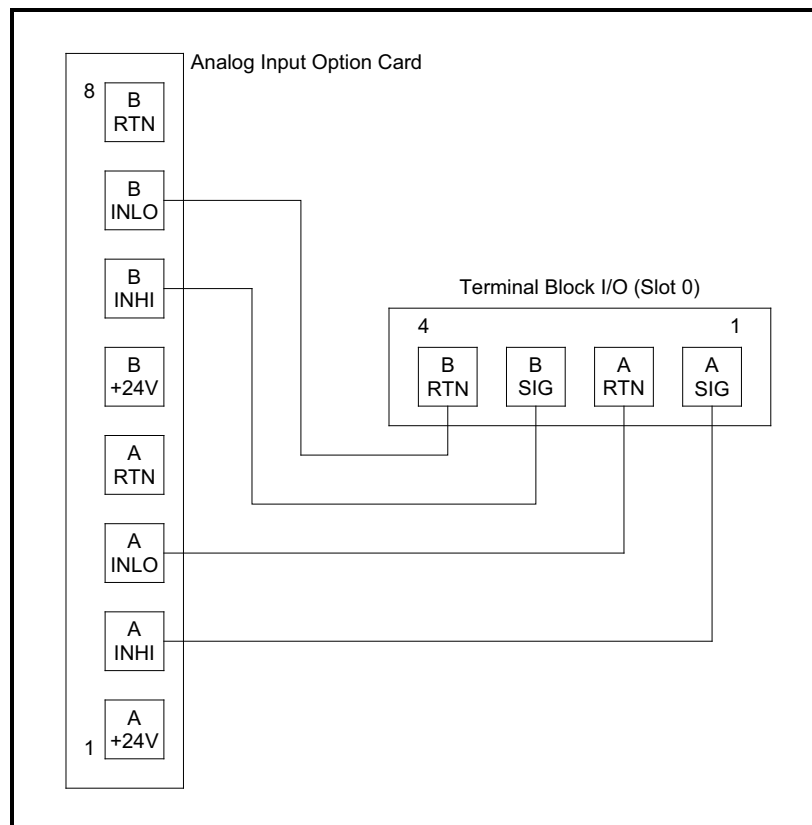

Figure 3: Analog Input Calibration Connections
Connect the Slot 0 analog output(s) (or an independent calibrated current source) to the analog input(s) on the option card, as shown in Figure 3 below. Refer to the menu map in Figure 6 on page 15 as a guide.
The procedure for calibrating Input A is identical to that for calibrating Input B. However, when calibrating Input B, be sure a calibrated current source is connected to the appropriate pins on the terminal block. See Figure 3 on the previous page for the correct pin numbers. To calibrate a 0/4-20 mA input card, see the section below.
1. Connect the 4 mA current source to the currently selected analog input, as shown in Figure 3 on page 6.
1. Connect the 20 mA current source to the currently selected analog input, as shown in Figure 3 on page 6.